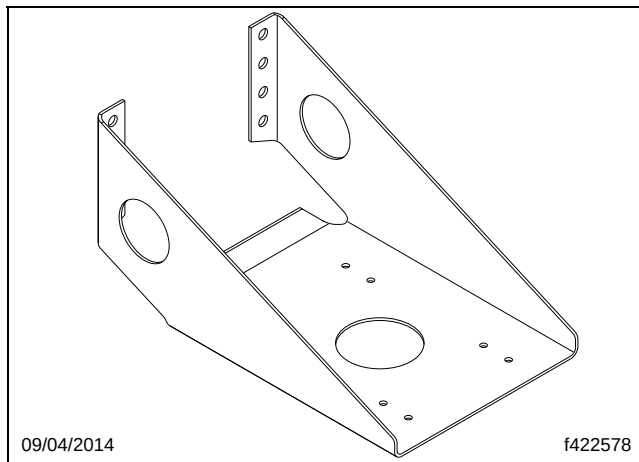
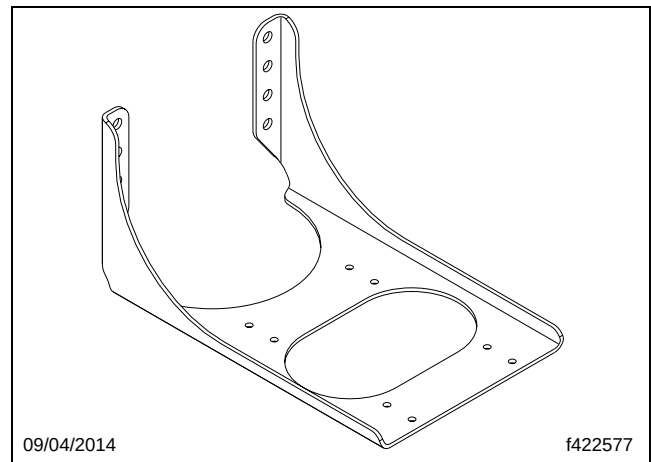

Fig. 1, Older 3/16-Inch Air Tank Mounting Bracket
Fig. 2, New 1/4-Inch Air Tank Mounting Bracket
3. Check each air tank mounting bracket to determine if it is the older 3/16-inch steel or the new 1/4-inch thick steel. See **Fig. 1** and **Fig. 2**.